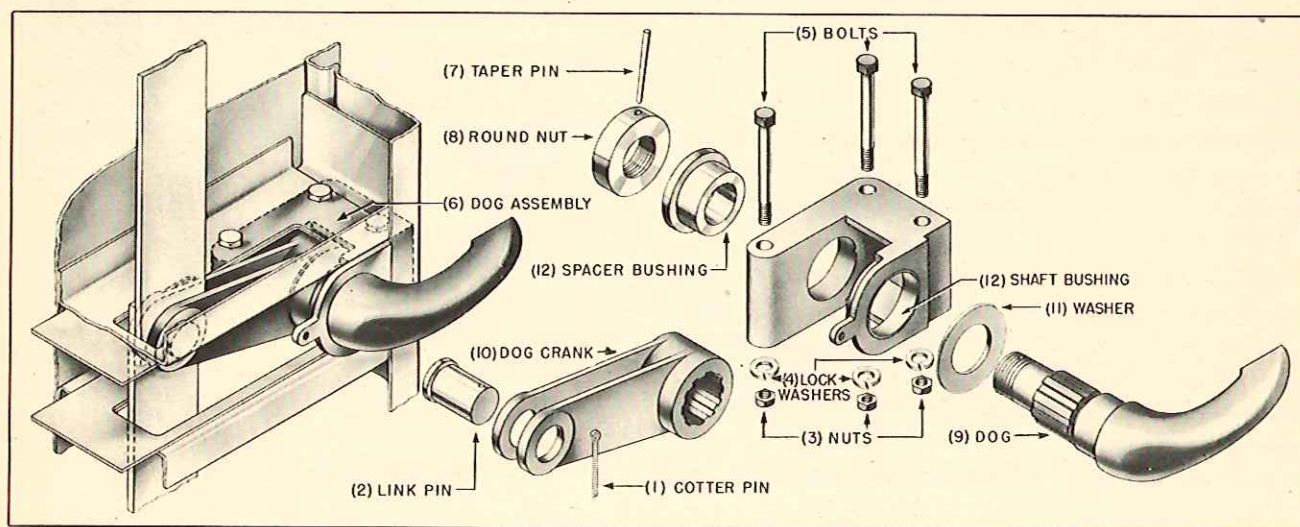
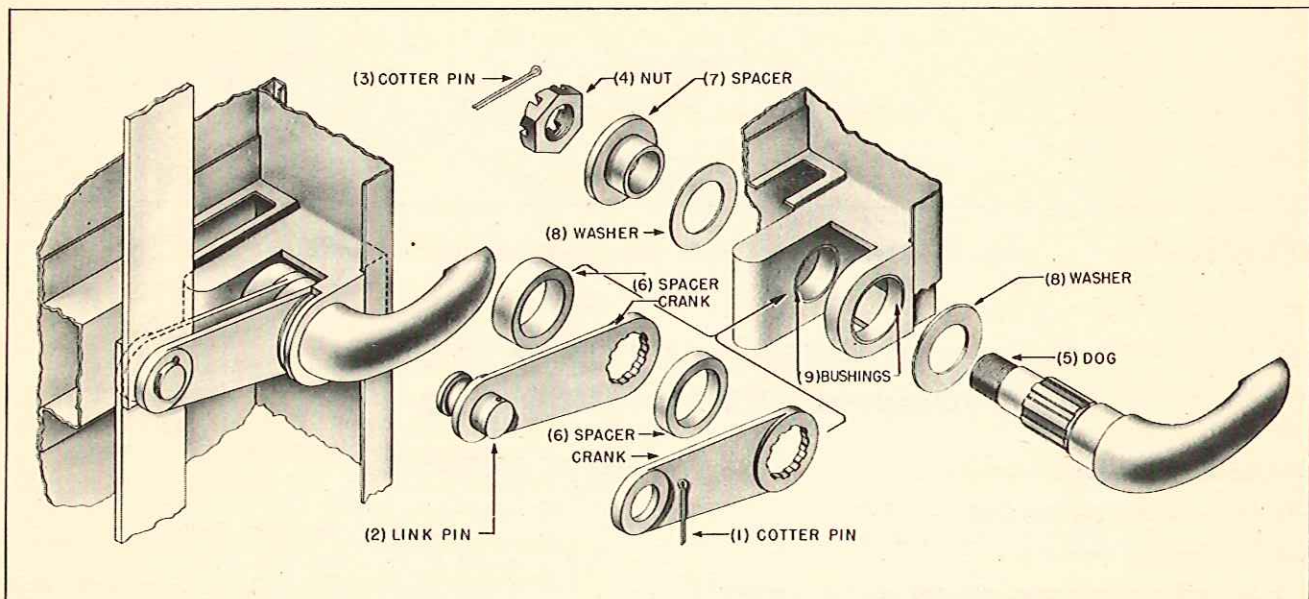

Fig. 18—Dog, assembly and exploded views, TLD-2(crs) door.
Fig. 19—Dog, assembly and exploded views, TLD-3(ms) door.
HOW TO REPLACE DOG, TLD-2(crs) DOOR (Fig. 18)
HOW TO REPLACE DOG, TLD-3(ms) DOOR (Fig. 19)
NOTE: When adjustment of dogs is necessary, it can be effected by rearrangement of washer (11) on Figure 18 or washers (8) on Figure 19.